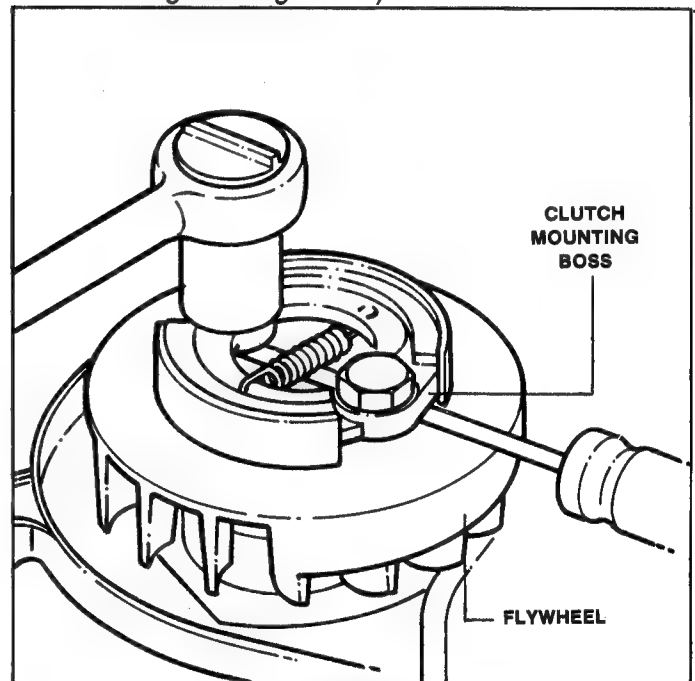

FIGURE 4.1
- A.** Remove centrifugal clutch from flywheel. (Fit screwdriver between clutch mounting boss and flywheel protrusion to prevent flywheel from turning. See Figure 4.1)